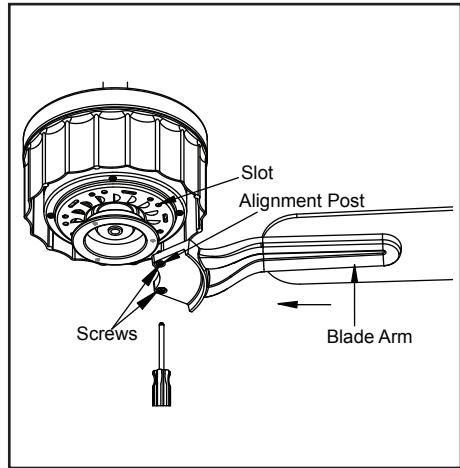

Figure 14
3. Fasten the blade assembly to the motor by inserting the alignment post into the slot on the bottom of the motor and tightening the motor screws. Please note that the motor screws are pre-attached into the blade brackets (Figure 14).
2. Most fan wobble problems are caused when blade levels are unequal. Check this level by selecting a point on the ceiling above the tip of one of the blades. Measure from a point on the center of each blade to the point on the ceiling. Measure this distance as shown in Figure 14. Rotate the fan until the next blade is positioned for measurement. Repeat for each blade. Measurements deviation should be within $1/8"$. Run the fan for 10 minutes.